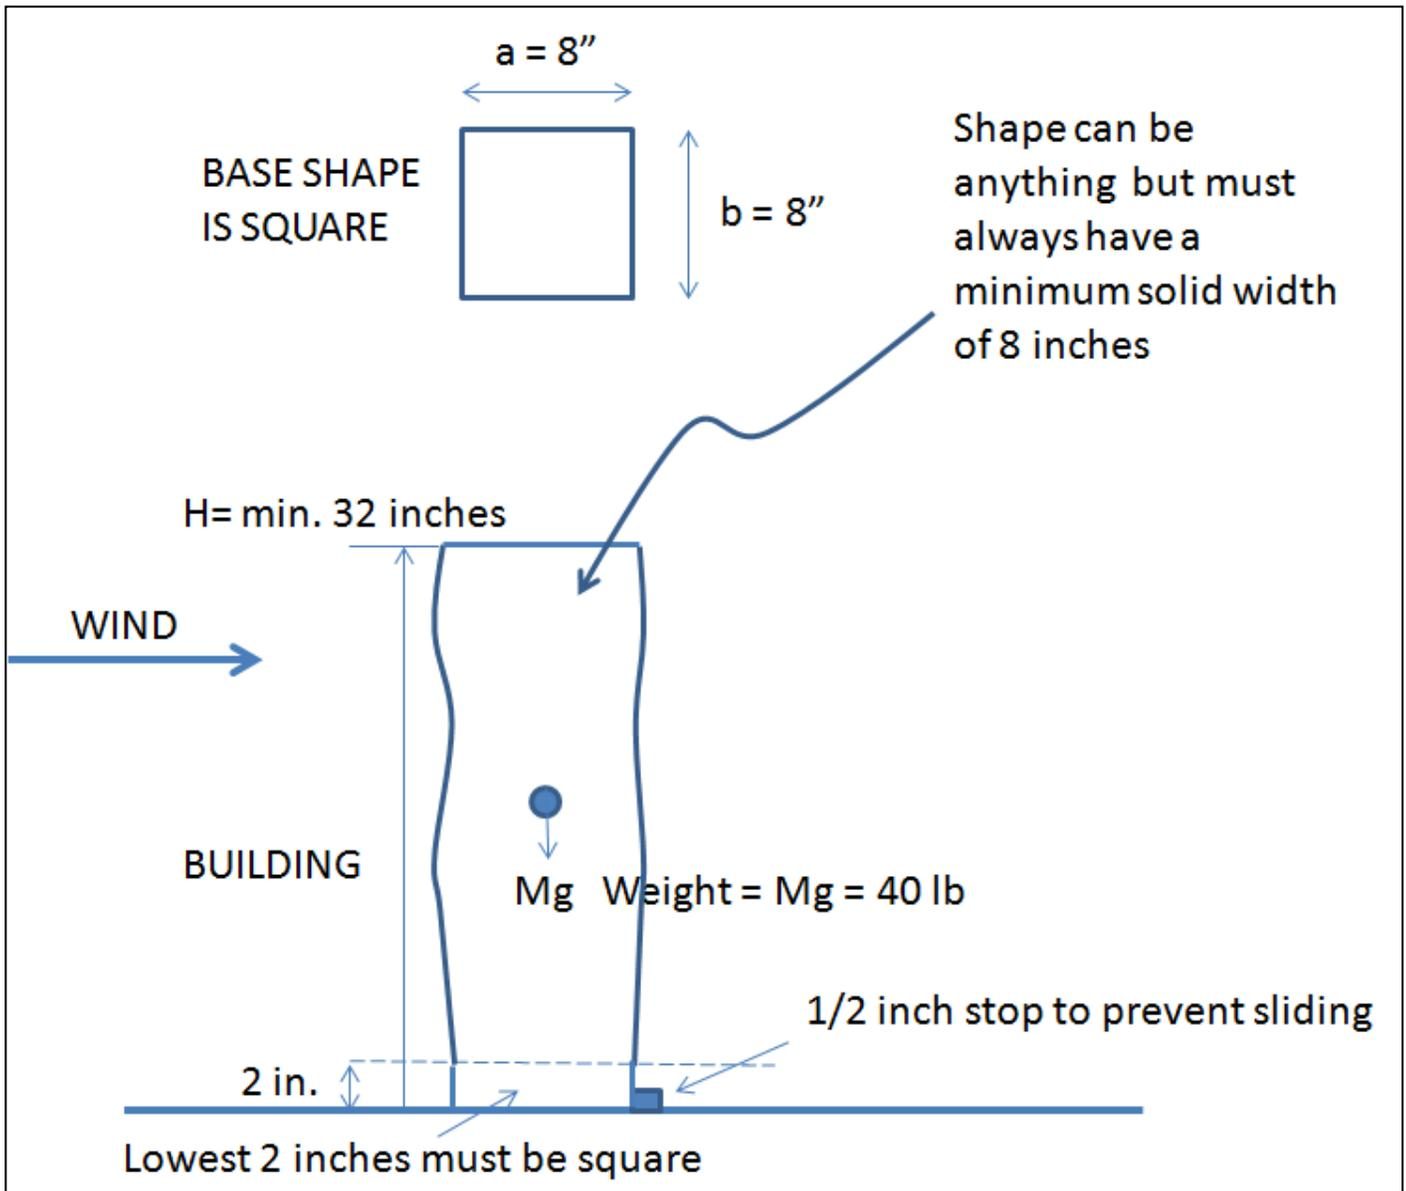

Figure 3: Schematic diagram of the building model, showing variable shape above the 2-inch rectangular shape.
- 2.4: Above the lowest 2 inches of the building model, which is the gold painted wooden base, and up to at least 30 inches above the base, the building model must have a minimum **solid** width of 8 inches, or wider; see Figure 3.